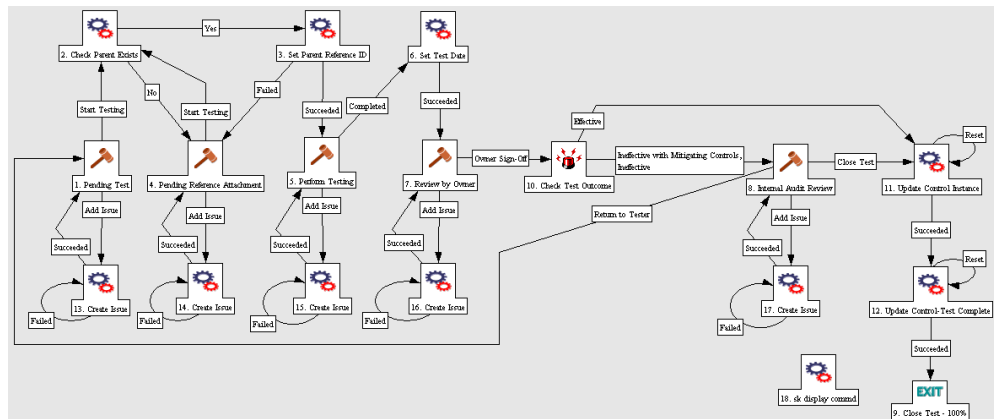

Figure 5-1. Test lifecycle
- *Figure 5-1* shows the test lifecycle.